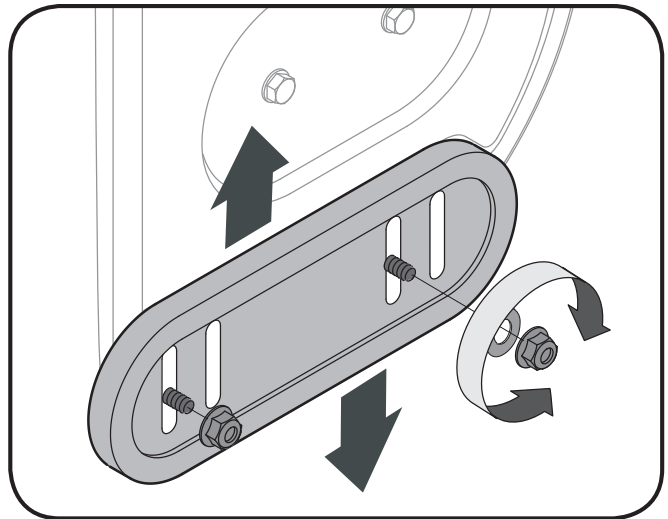
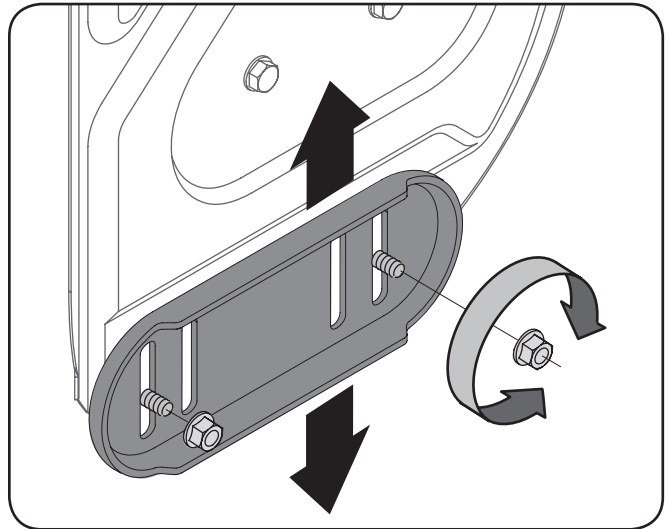
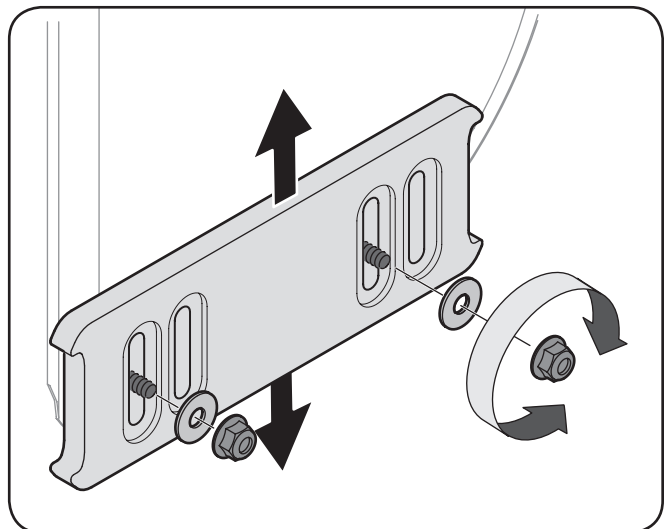

Fig. 3-13
Fig. 3-14
Fig. 3-15
1. Loosen the four hex nuts (two on each side) and carriage bolts. Move skid shoes to desired position. See Fig. 3-13, Fig. 3-14 or Fig. 3-15.